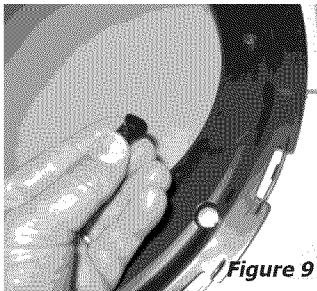

Figure 9
- 10 Remove two transition ring plugs and reinstall on previous handle side. (Figures 9 and 10)